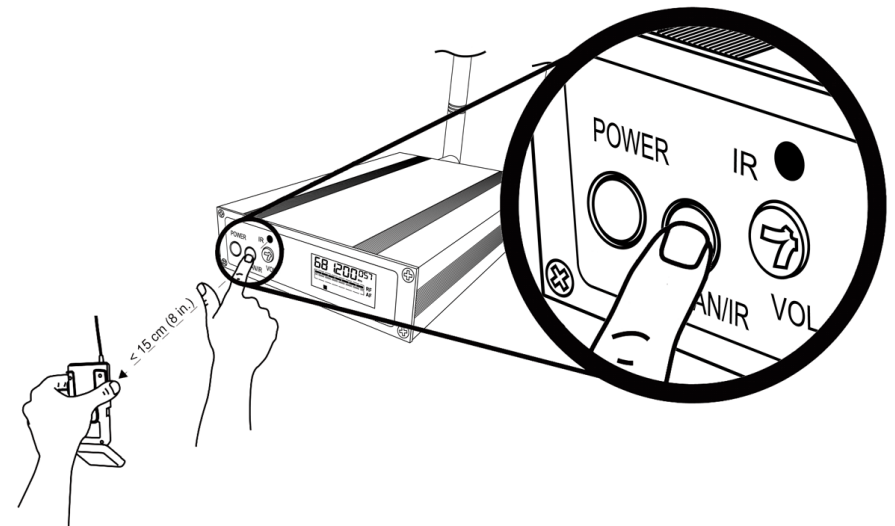

FIG. 6
- 2 Open the transmitter battery compartment to display the infrared (IR) port. (See page 28)
- 3 Expose the transmitter IR port to the receiver. (FIG. 6)
- 4 Press and hold the **Scan/IR** button on the receiver until the red light stops flashing on both the receiver and transmitter. (FIG. 6)